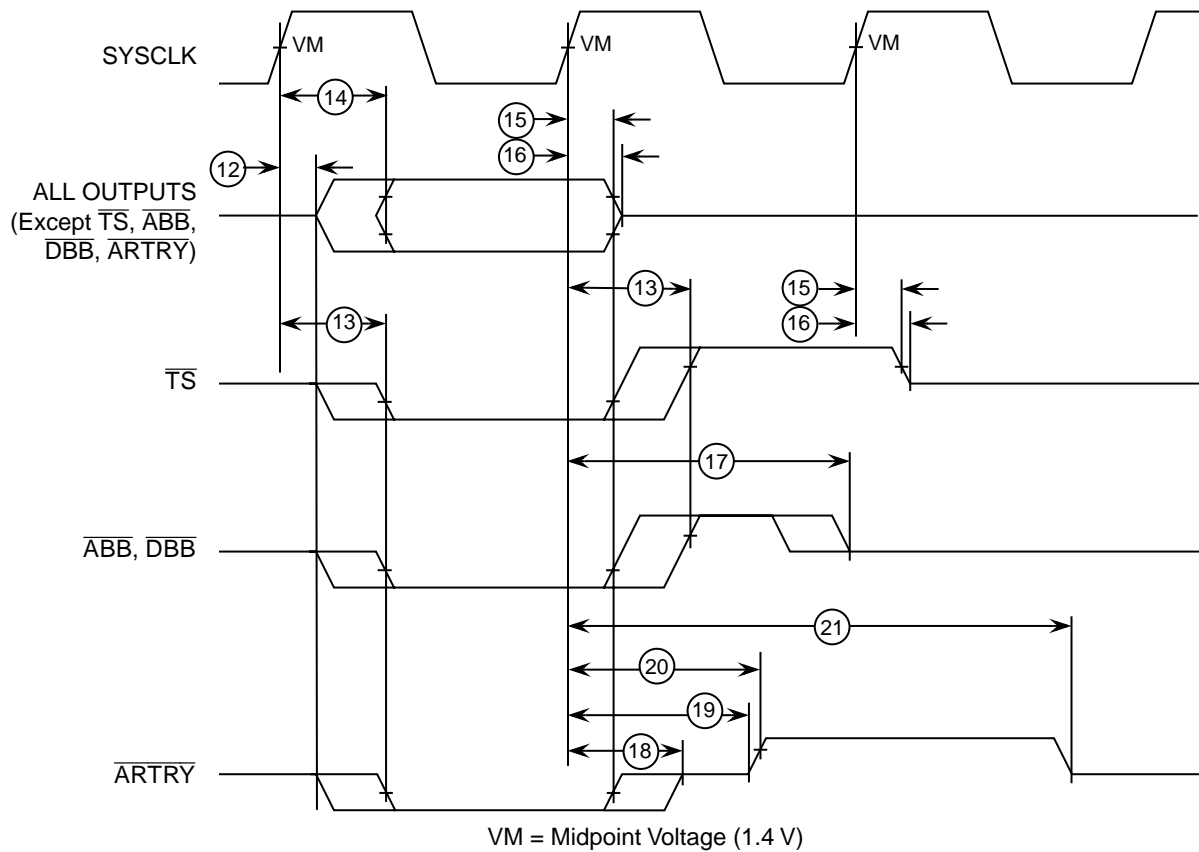

Figure 4. Output Timing Diagram
Table 9 provides the output AC timing specifications for the PID7t-603e as defined in Figure 4.
1. All output specifications are measured from the 1.4 V of the rising edge of SYCLK to the TTL level (0.8 V or 2.0 V) of the signal in question. Both input and output timings are measured at the pin (see Figure 4).
Figure 4 provides the output timing diagram for the PID7t-603e.